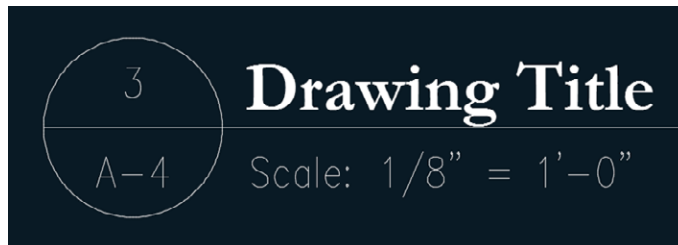

FIGURE 10.13 Edited text content and properties
3. Press `Enter` to update the selected object. Press `Esc` to deselect. Figure 10.13 shows the result.